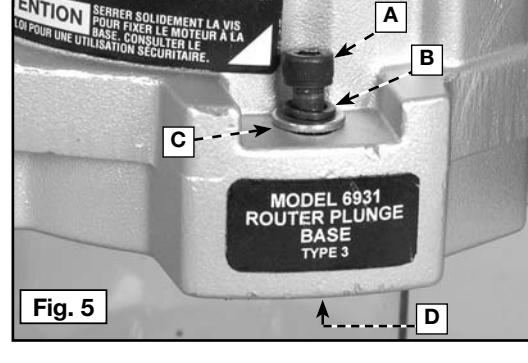
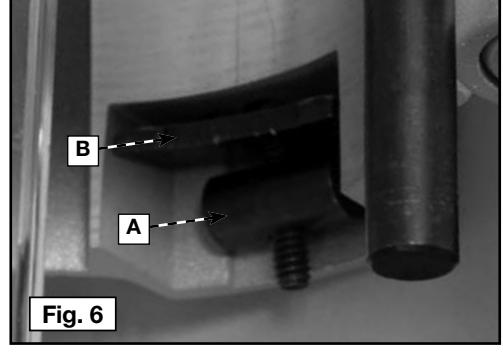
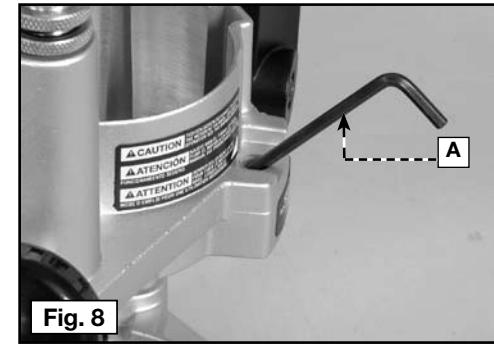

Fig. 5
Fig. 6
Fig. 8
1. Support the motor clamp (D) Fig. 5 and loosen the motor clamp screw (A) Fig. 5 approximately 1/2" (13 mm) with the hex wrench (supplied).
1. Remove the clamp screw (A) Fig. 5, flat washer (B), lock washer (C), and clamp-locking nut (A) Fig. 6.
2. Insert the hex wrench (A) Fig. 8 to contact the locking plate (B) Fig. 6. Tap lightly to release and remove the locking plate.